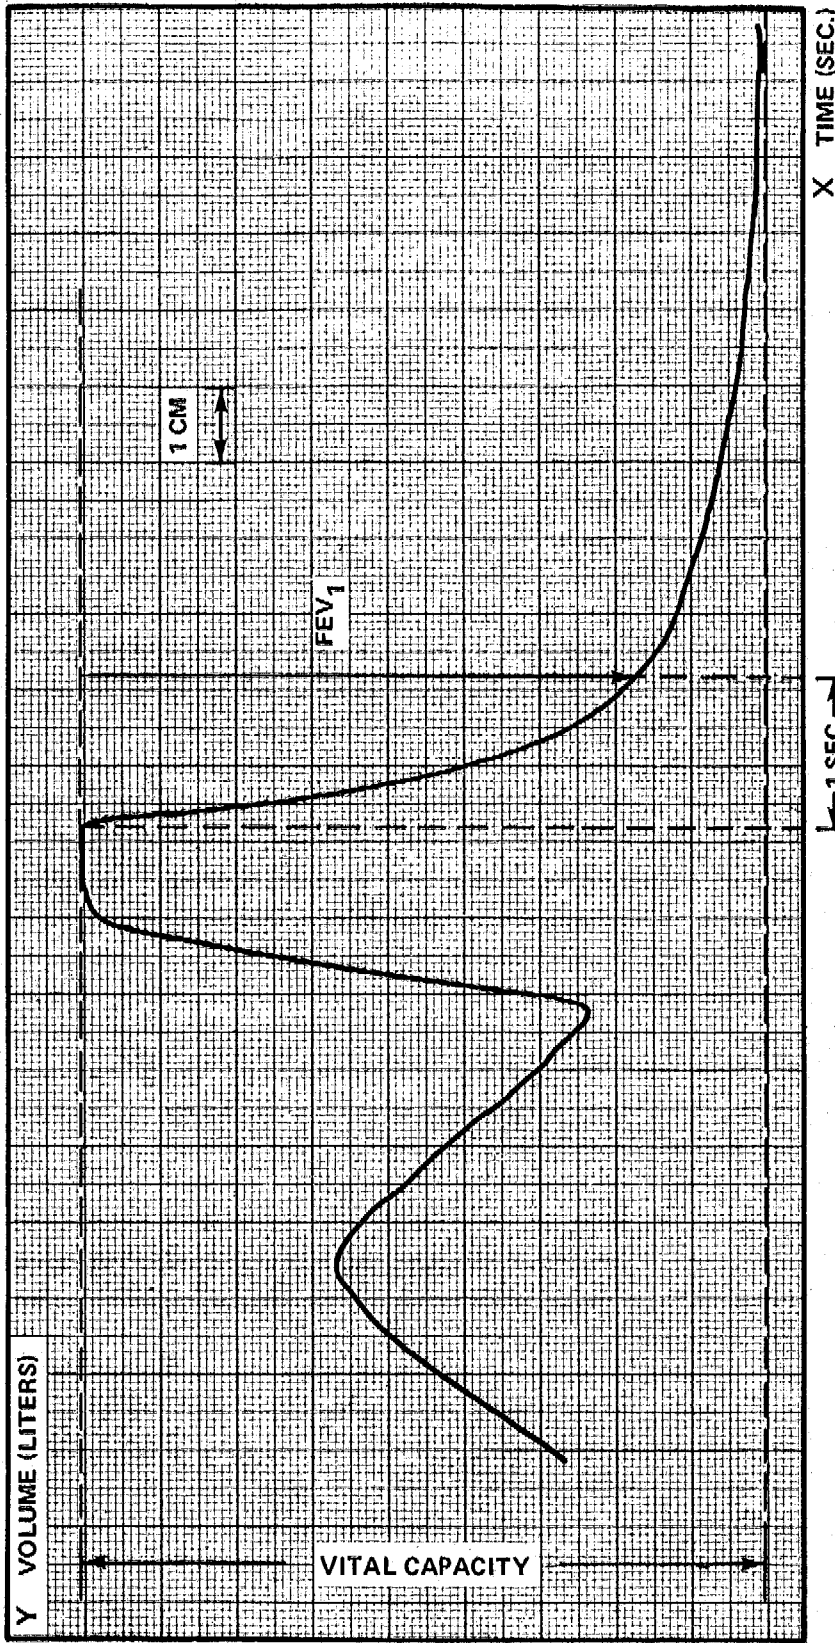

Figure 44 - Trace - Spirogram Recorded on X-Y-T Recorder
G.17. The **Y** axis **POLARITY** switch can be set to either **+** or **-** depending upon the operator's preference. The sample spirogram (Figure 44) was recorded with this switch in the position. Notice that end expiration is at the bottom of the tracing.
G.19. The sample spirogram (Figure 44) shows where to establish some of the basic points required for calculations.
H.1. The sample spirogram (refer to Figure 44) was recorded on the X-Y-T recorder. The X axis is time and the Y axis is volume. The same volume calibrations used for flow-volume loop analysis apply to spirogram analysis.